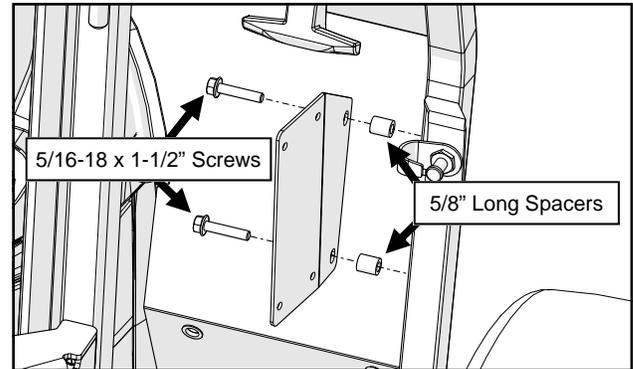

Fig. 15.1 (Install Heater Bracket to A-Pillar)
- 15.1** Attach the heater bracket to the right A-Pillar with 5/8" long spacers. See Figure 15.1. Tighten hardware.